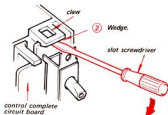

Fig. 2-13.
- 2 Remove control complete circuit board in the direction shown by the arrow 3 by releasing chassis claw with a slot screwdriver as shown in Fig. 2-13. below.